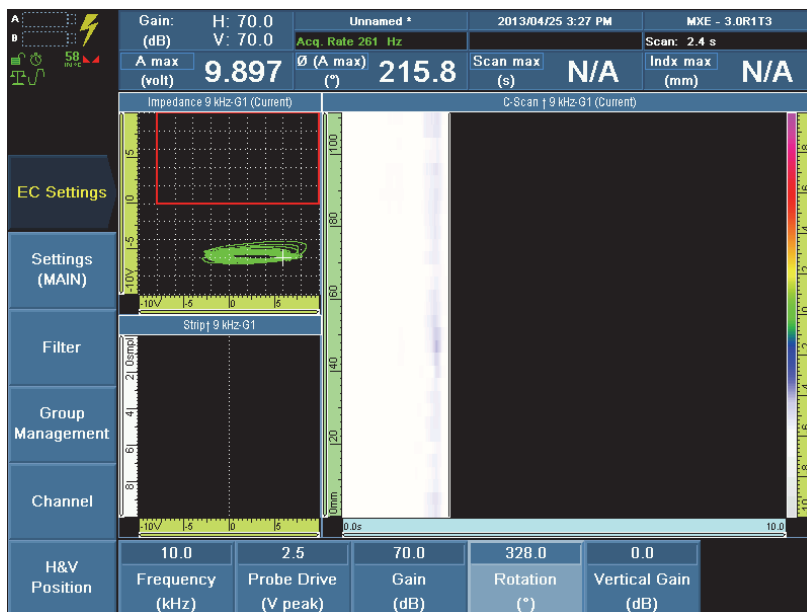

Figure 9-21 Rotation parameter set to orient the signal horizontally
- e) Select **Rotation** (°), set the value to orient the signal horizontally. In this example, the **Rotation** (°) value is set to 320.0, and then press the Accept key to confirm (see Figure 9-21 on page 165).